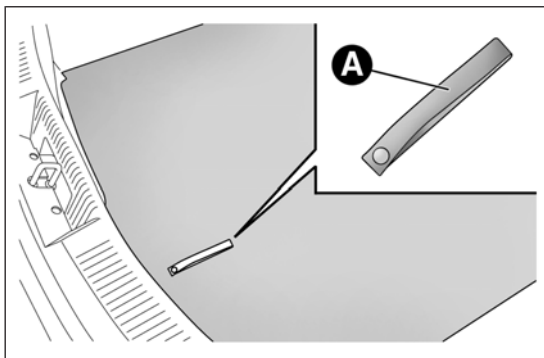

fig. 113
- ☐ open the luggage compartment, pull tab A fig. 113 and lift up the mat;